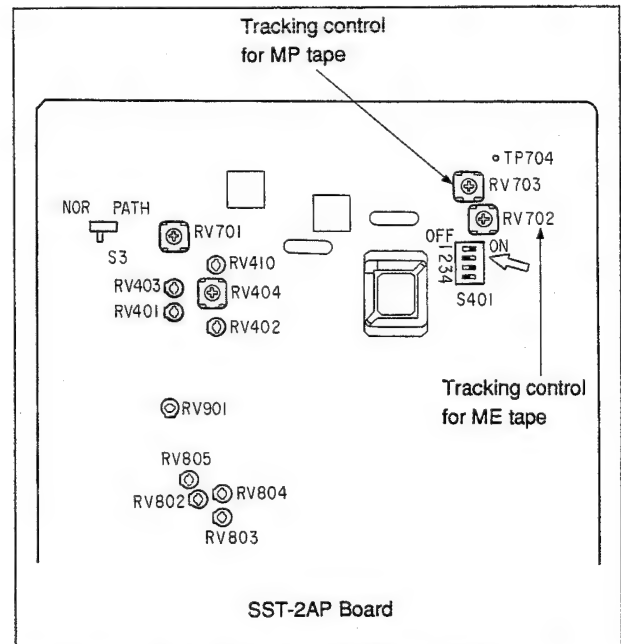

Fig. 6-9-2 REC head tracking adjustment
7. Play back the recorded portion at step-1 of the tape, maximize the RF wave shape (video center portion) by using RV702 on SST-2AP board. (See Fig. 6-9-2.)